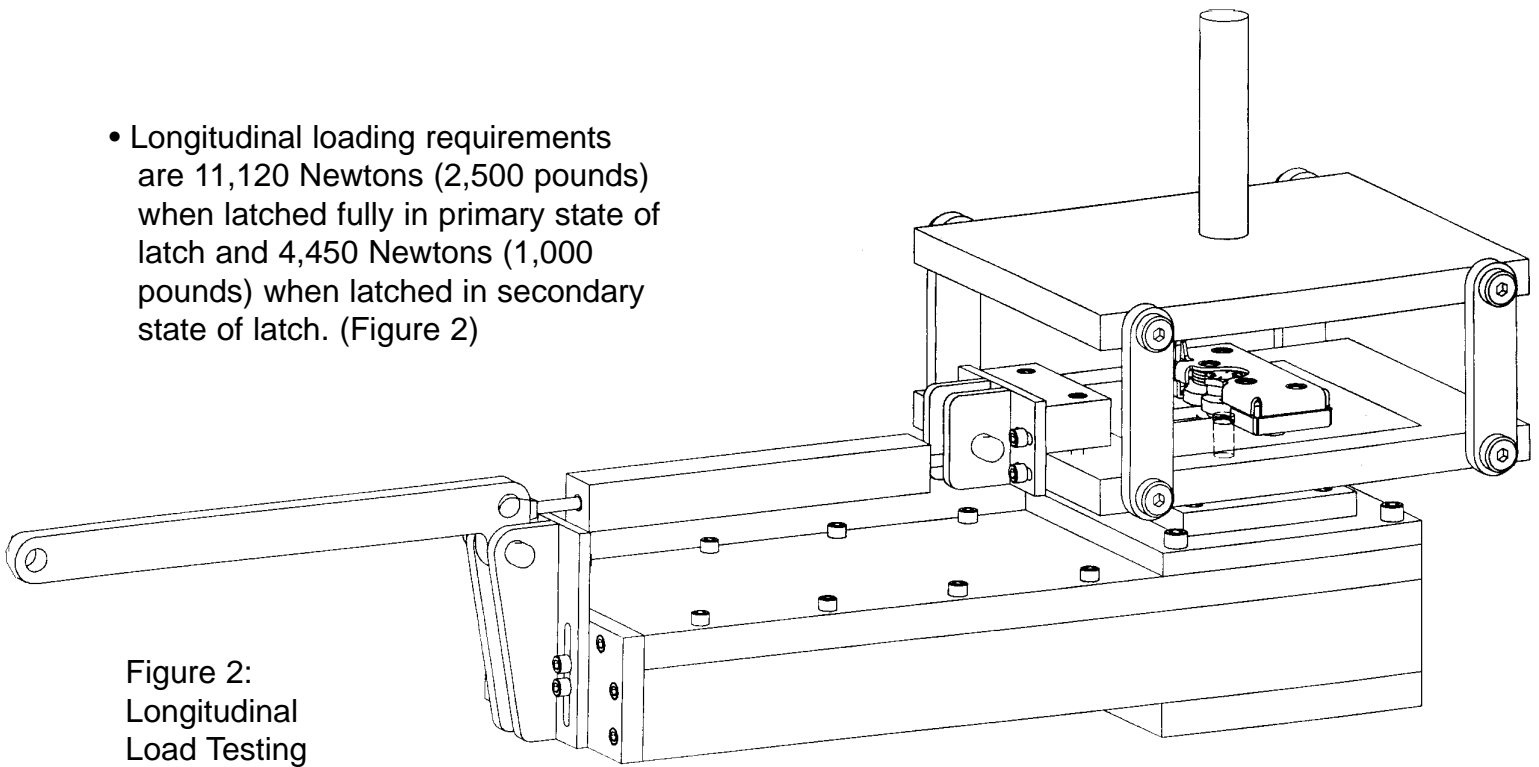

Figure 2:
- Longitudinal loading requirements are 11,120 Newtons (2,500 pounds) when latched fully in primary state of latch and 4,450 Newtons (1,000 pounds) when latched in secondary state of latch. (Figure 2)